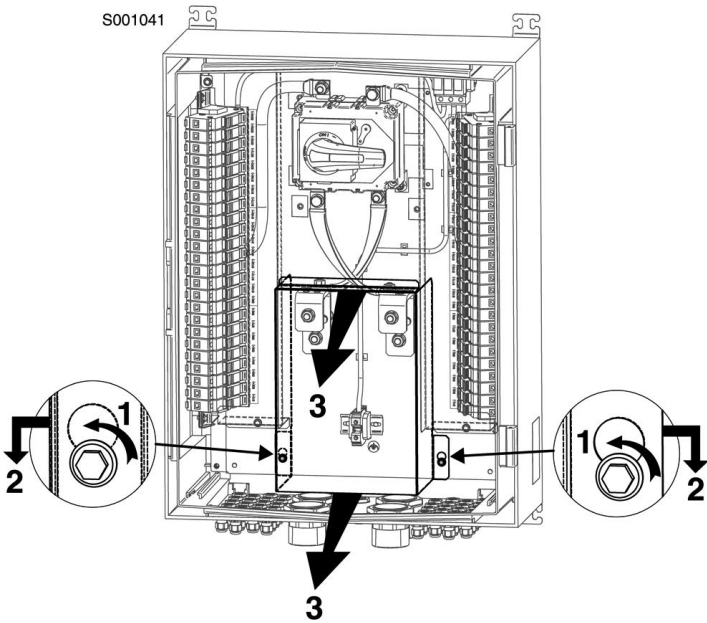

Figure 11: Removing the polycarbonate cover protecting the output cables and the functional earth
- Remove the polycarbonate panel by only loosening the two M8 screws and by slightly pulling down the panel since the head of the screws can pass through the holes on the panel. Then remove the panel (Figure 11).